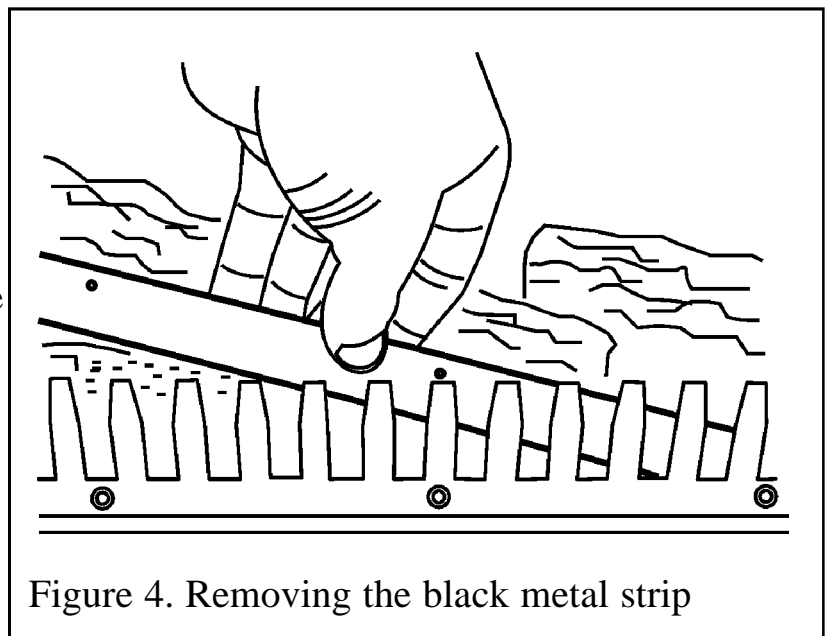

Figure 4. Removing the black metal strip
- Remove the three screws on the front of the fuel basket. Behind the basket is a black metal strip which holds the fuel effect in place. Remove this by lifting up (See figure 4).